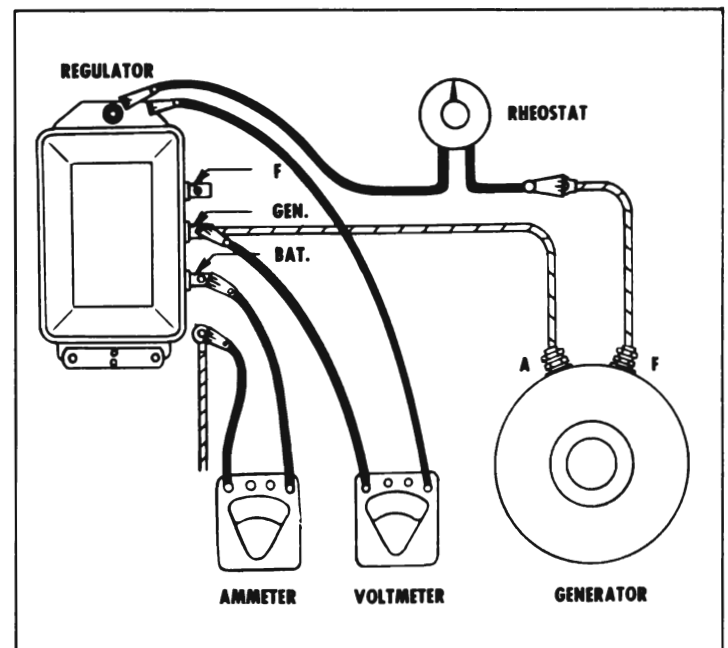

Figure 10-16—Testing Cutout Relay
4. Turn voltmeter selector switch to position for 12 volt system. Then connect voltmeter red lead to "Gen" terminal of regulator and voltmeter black lead to ground on base plate of regulator. See Figure 10-16.